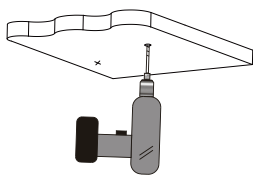

Fig.3
- Step3 Install the product on the place where you marked (as Fig.3)